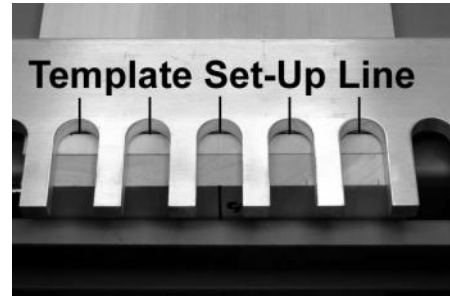

**Figure 4**
- 9) After positioning the edge guides properly, you will need another set-up board for fixing the template position. For 1/2" box joints, mark the setting line 3/8" from the edge of the board. For 1/4" box joints, mark the line 7/32" from the edge. **(Figure 4)**